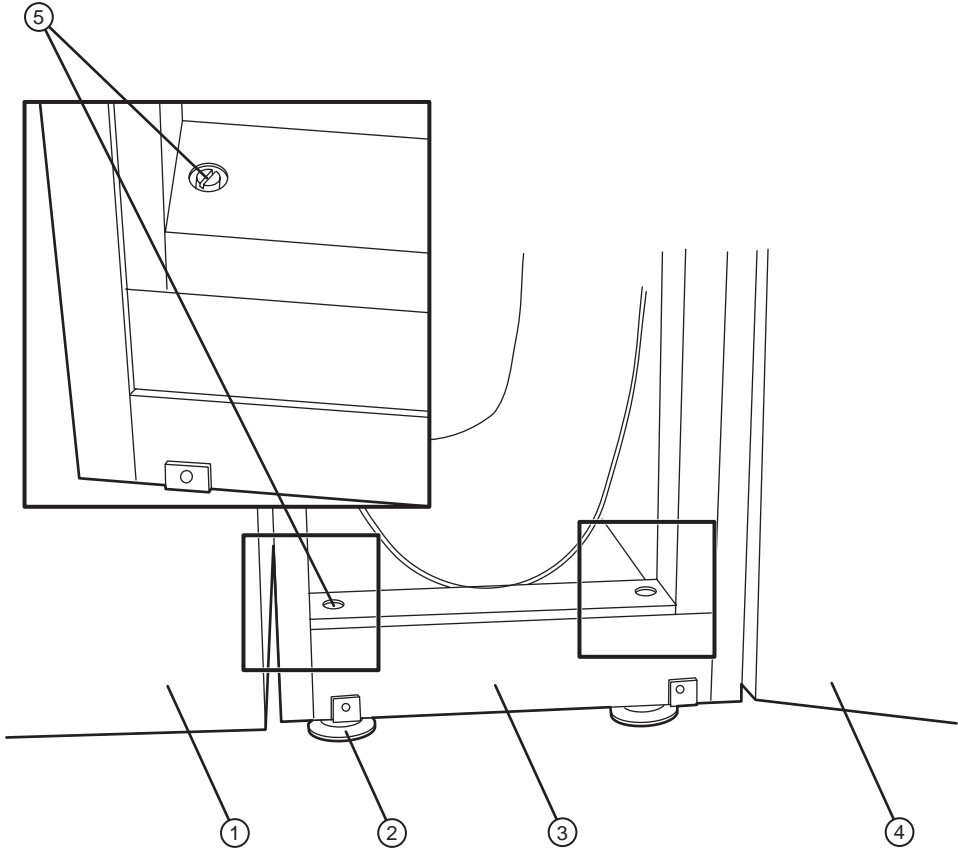

Figure 1-18 Adjusting the buffer legs for buffer to OLP alignment.
①—OLP entrance platen. ②—Buffer exit platen.
- 8. Raise or lower the OLP and/or buffer leveling feet at the bottom until the platens align. Refer to Figure 1-18.